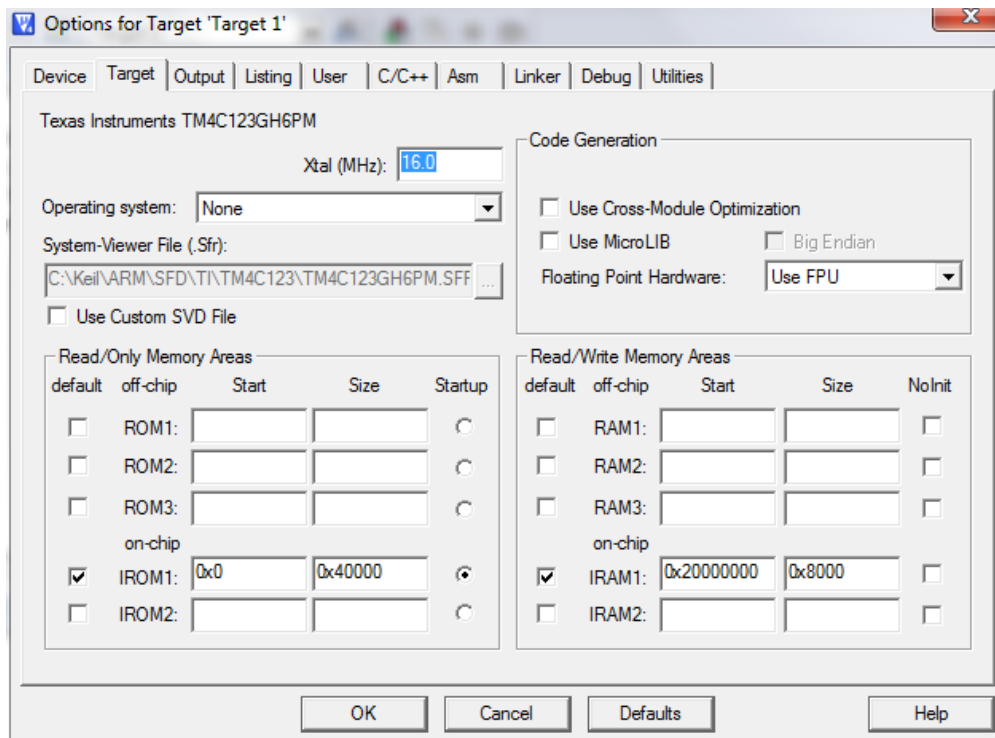

Figure 25
10. Before we can build the project correctly, we need to do some project configurations. Go to Project → Options for Target 'Target 1.' The Options for Target 'Target 1' dialog box appears (see Figure 25).